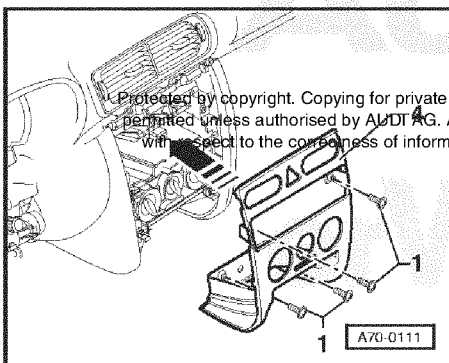

Fig.4 Removing and installing trim for centre section of dash panel
- Remove trim for centre section of dash panel => Fig. 4